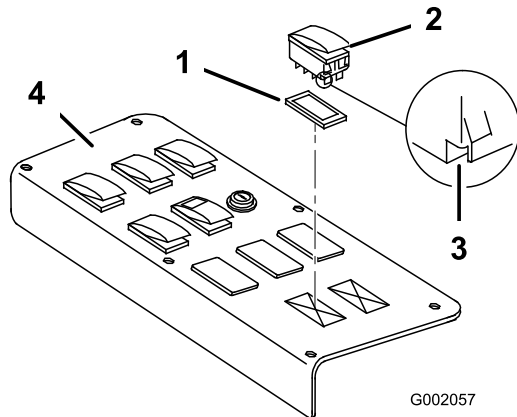
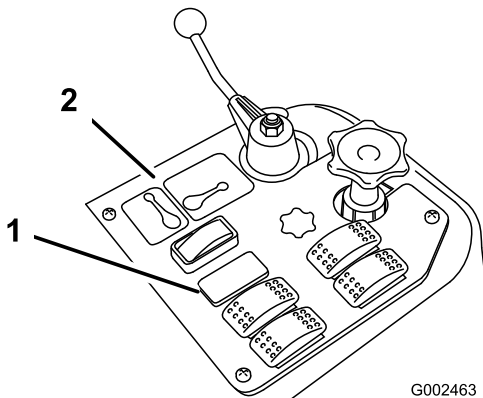

Figure 14
Figure 15
1. Remove the spray control panel to expose the bottom side (Figure 14 for the 1250 and Figure 15 for the 1200).
2. Remove the plug in the sonic boom slot from the spray control panel on the vehicle and install the rocker switch provided in its place (Figure 14 for the 1250 and Figure 15 for the 1200).
Note: Ensure that the orientation of the switch matches what is shown in Figure 14, with the notch pointing toward the rear of the vehicle.